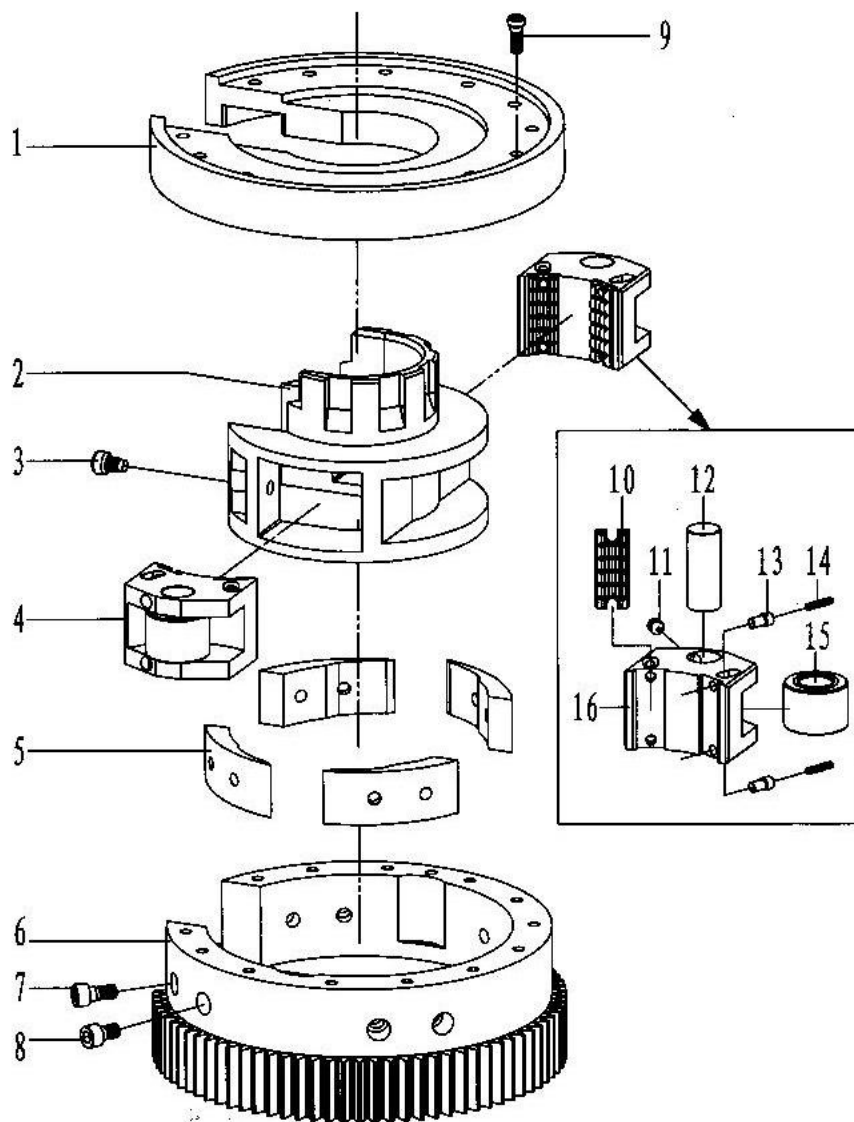

Fig.8-4
8.4 Tong head assembly and parts list(Fig.8-4,Table 8-4)